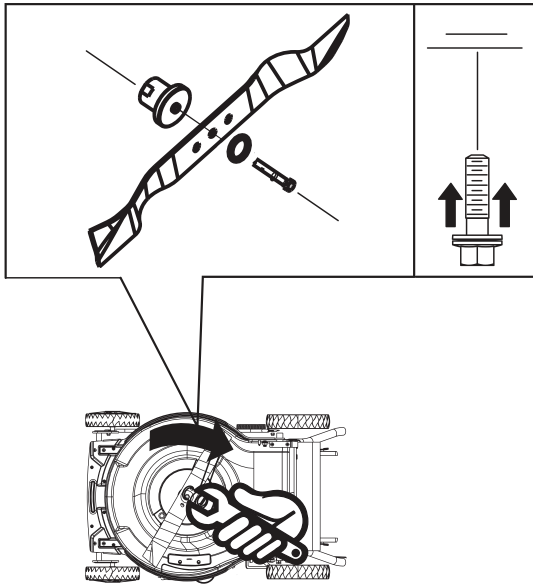

Figure 16
3. Tip the mower onto its side, with the dipstick down, to drain the used oil out through the oil fill tube.(Figure 16)
(Figure 16)
7. Install new blade with all mounting hardware; tighten blade bolt by turning clockwise.(Figure 16).